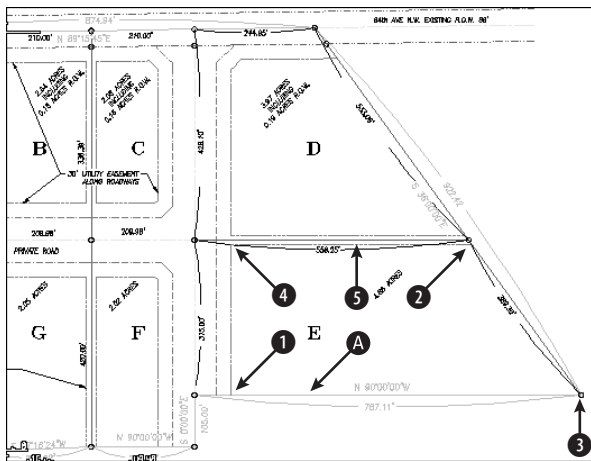
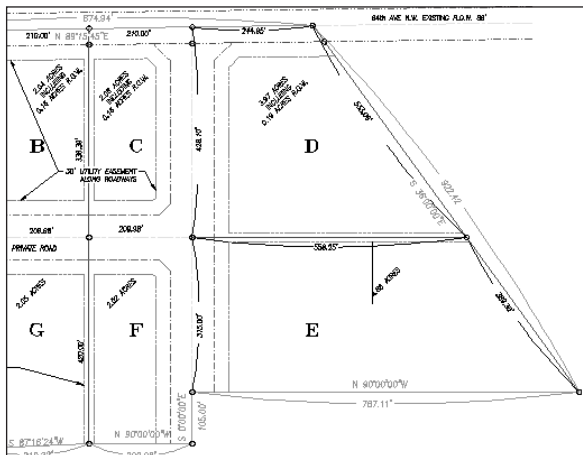

Figure 12-15: Parcels `D` and `E` in the civil engineering drawing
Figure 12-16: Using CAL, you can calculate the intersection of two lines without drawing the lines.
3. If you did not do the previous exercise, use `ZOOM Window` to zoom in to the parcels labeled `D` and `E`, as shown in Figure 12-15.
5. In the Step-by-Step exercise on the `DIVIDE` command earlier in this chapter, you divided a line into three segments by placing two points on the line. You can use `CAL` to calculate the length of those segments. Type `cal ↵`. At the `Expression: prompt`, type `abs(end-end)/3 ↵`. AutoCAD prompts you for the two endpoint snaps. Pick the two ends of the line at **A** in Figure 12-15. AutoCAD calculates `262.37`.
6. Suppose that you want to draw a line starting from the intersection of two intersecting lines going from corner to diagonally opposite corner and ending perpendicular to the top line of the land parcel. Start the LINE command. At the Specify first point: prompt, type 'cal ↵. At the Expression: prompt, type ill(end,end,end,end) ↵. AutoCAD prompts you for four endpoints. Pick the endpoints (in Figure 12-15) at ❶ and ❷ to define the first line, and then at ❸ and ❹ to define the second line. AutoCAD starts the line at the intersection of the two lines. At the Specify next point or [Undo]:: prompt, choose the Perpendicular object snap and pick ❺. Figure 12-16 shows the result.